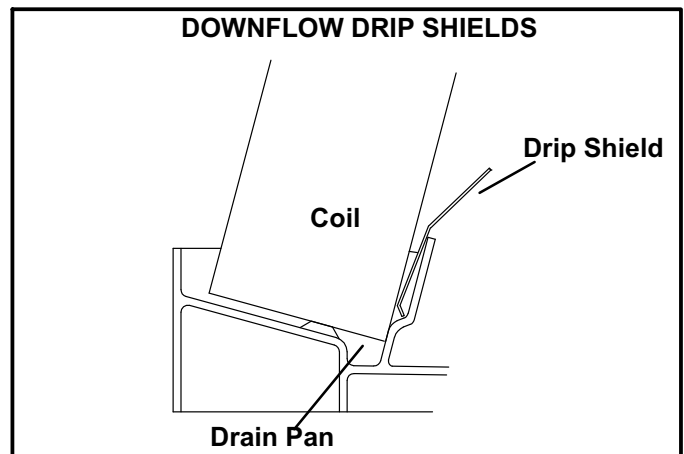

FIGURE 12
- 5 - From the underside of the coil, install the downflow drip shield firmly in place. See figure 12.